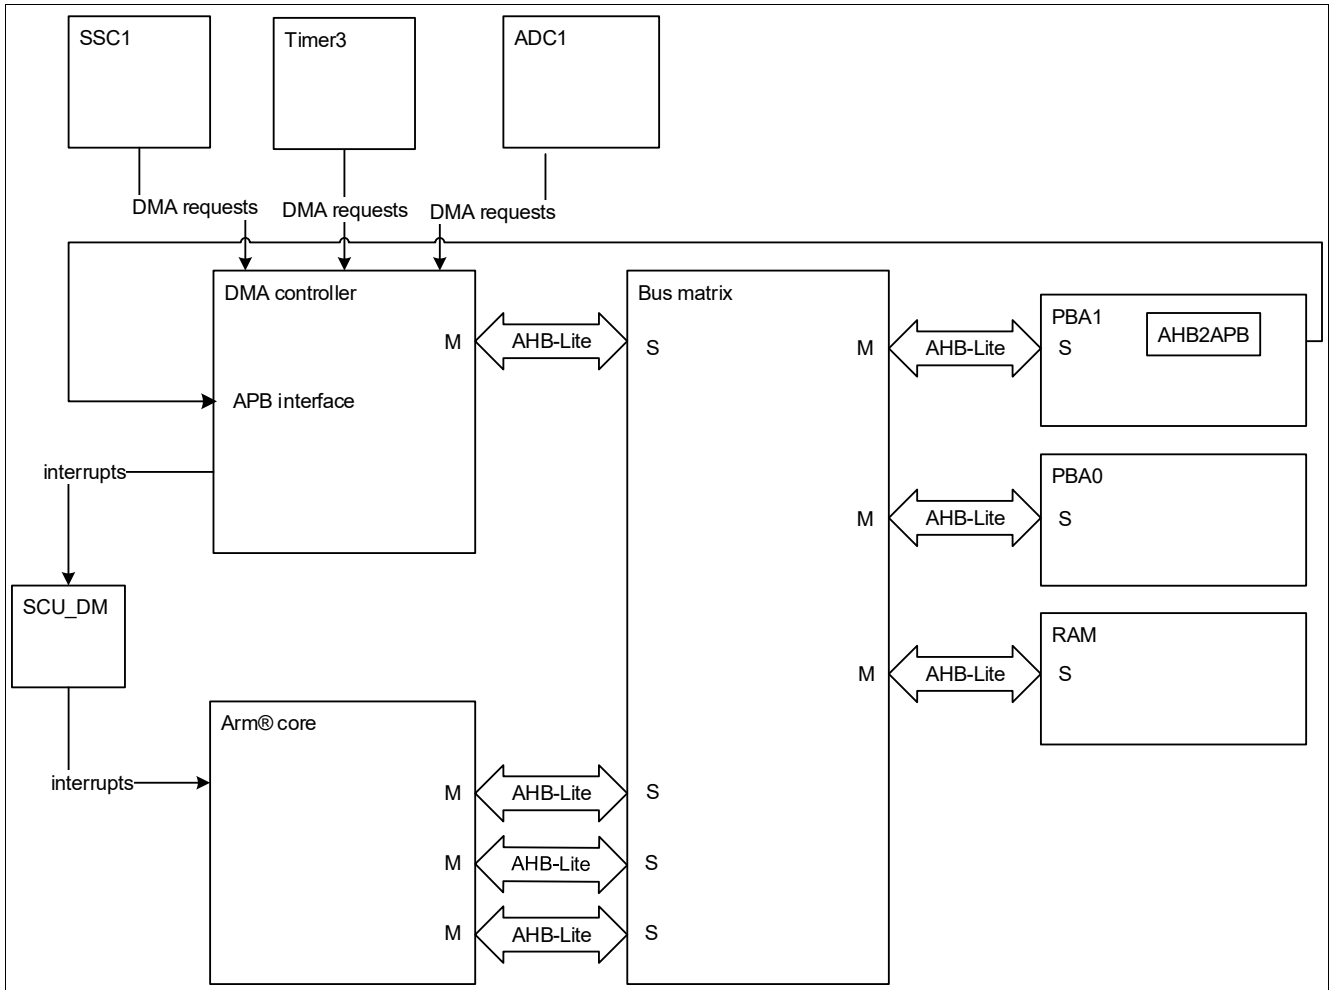

Figure 12 DMA controller top level block diagram
**Figure 12** shows the top level block diagram of the TLE9862QXA40.